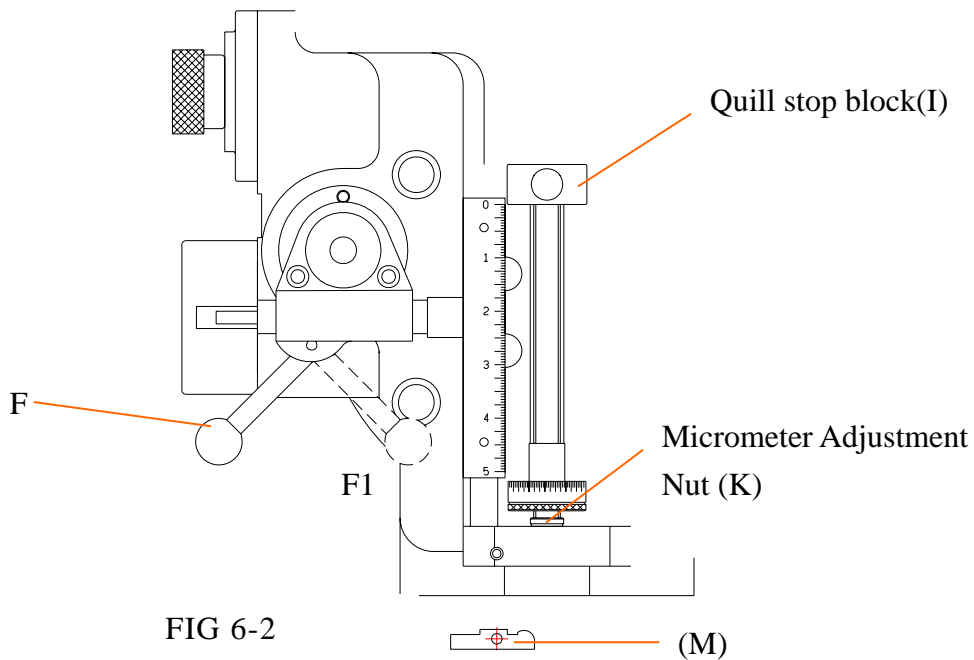

FIG 6-2
- (1). Loosen the quill lock (L) .
- (2). Turn the power feed transmission engagement crank.
- (3). Feed speed is in three stages. H, L and M. selection may be made by quill feed elector.
- (4). Pull the feed control lever (F) from (F1) to (F2) position (FIG.6-2) to engage the overload clutch for automatic feed mechanism.
- (6). As shown in (FIG 6-2), the working depth may be set by micrometer adjustment nuts (K) (each graduation is 0.001" or 0.02 mm). When the quill stop block (I) contacts the micrometer nut (K), the feed control lever (F) may simply jump from (F2) back to (F1) position owing to the connecting motion between the feed trip lever and feed trip plunger. This will disengage the overload clutch and stop the spindle feed.